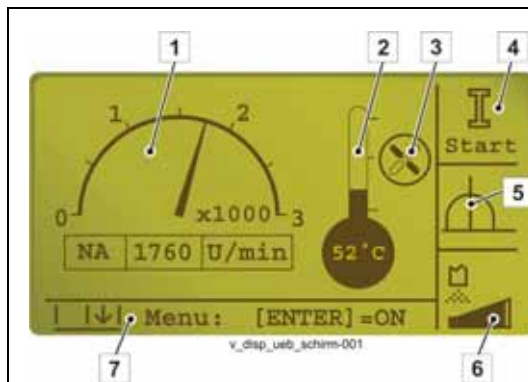

Fig. 72 VECTOR start screen
After that, the start screen appears (**Fig. 72**).
- Select desired operating mode with switch (3) (**3.5.5**)
The selected operating mode is displayed in field (5) on the display (**Fig. 72**).